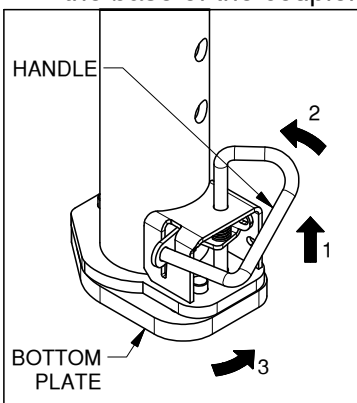

Figure B1: Coupler in "unlatched" position
1. **Set coupler position.** Set the coupler to the "unlatched" position. To do this: (1) Grip the handle and pull straight up about 1". (2) Rotate the handle counter-clockwise until it stops, then release. (3) Rotate the coupler bottom plate counter-clockwise until it stops. See Figure B1.
2. **Set coupler position.** Set the coupler to the "unlatched" position. To do this: (1) Grip the handle and pull straight up about 1". (2) Rotate the handle counter-clockwise until it stops, then release. (3) Rotate the coupler bottom plate counter-clockwise until it stops. See Figure B1.